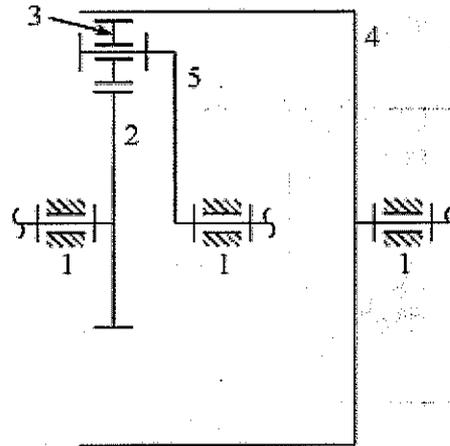

Fig. 3
3. Determine the speed ratio between the input shaft (gear 4) and the output shaft (arm 5) of the gear train shown in Fig. 3. Gear 2 is fixed, and the numbers of teeth for the gears are  $T_2=75$ ,  $T_3=15$ , and  $T_4=105$ , respectively, in the mechanism. (20%)